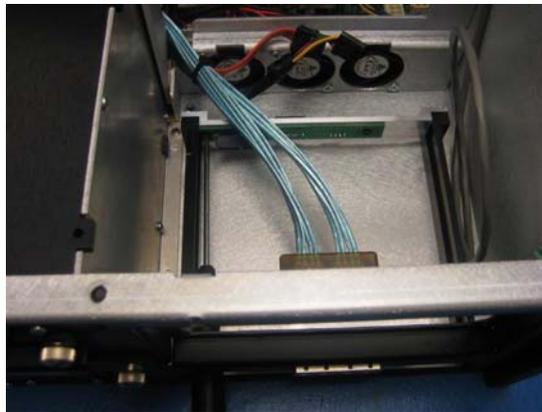

Figure 3-65
- 6) Use a Philips #1 screwdriver to remove the two screws attaching the CD/DVD backplane to the main chassis as illustrated in Figure 3-65